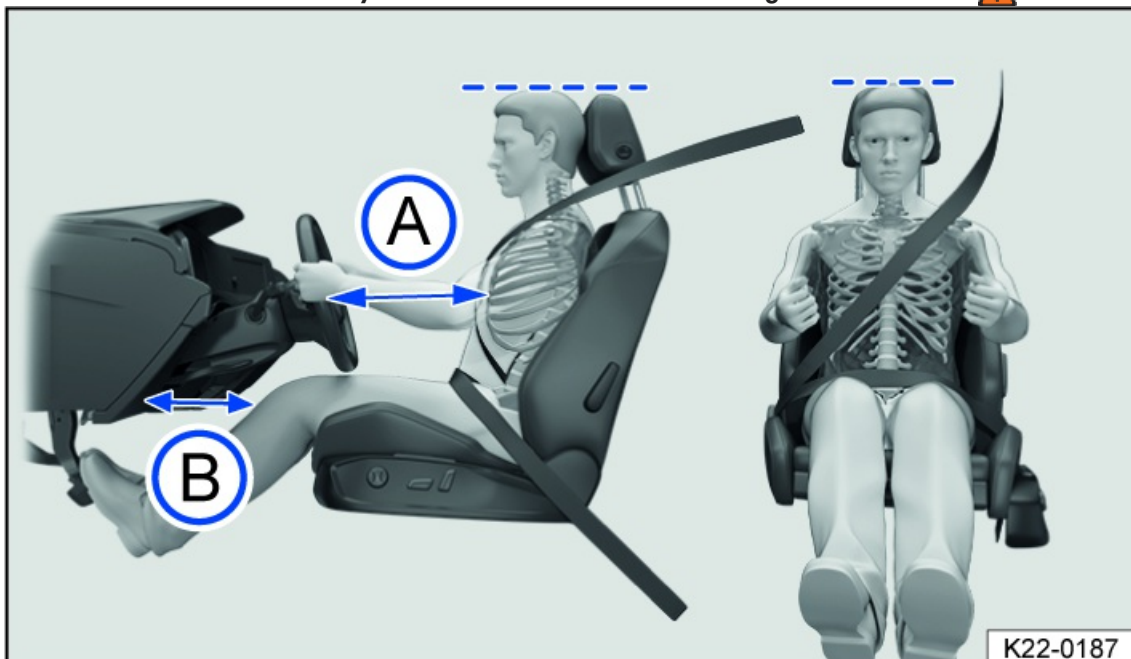

Fig. 22 Correct distance between the driver and the steering wheel, correct safety belt position and correct head restraint
- Adjust the head restraint so that the upper edge of the head restraint is in line with the upper portion of the head as much as possible, but not lower than eye level. Position the back of the head as close as possible to the head restraint fig. 22.
- Adjust the forward/back position of the driver seat so that you can press the pedals while your legs are slightly bent and there is at least 10 cm (around 4 inches) of space between the instrument panel and your knees fig. 22.
- Adjust the steering wheel so that the distance between the steering wheel and your chest is at least 25 cm (around 10 inches) fig. 22 and you can hold the steering wheel firmly at the sides with both hands and your elbows slightly bent.